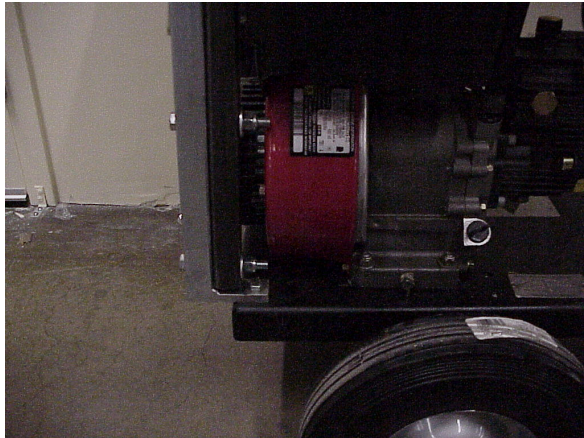

Figure 1
2. Set new frame on to pump. Attach new frame to handles using the supplied bolts, nuts and washers as shown (Figures 1 and 2)